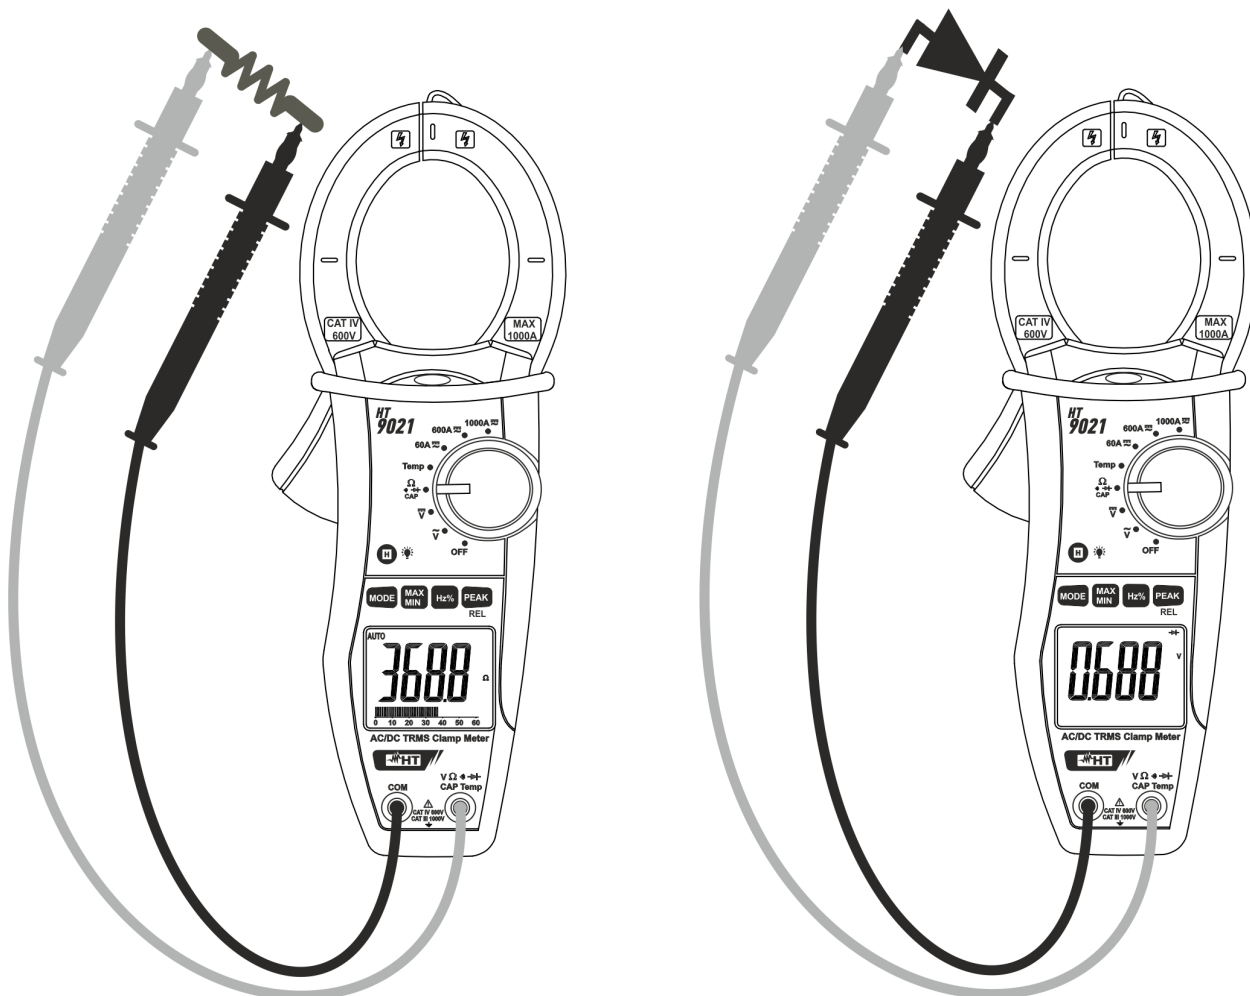

Fig. 6: Taking Continuity test and Diode test
3. Insert the red test lead plug into  $V \Omega \rightarrow \rightarrow \rightarrow$  **CAP Temp** jack and the black test lead plug into **COM** jack and perform continuity test on the object under test (see Fig. 6 – left side). Buzzer emits sound if the measured resistance value is less about 60Ω
5. Connect the red test leads to the anode of diode on test and the black test lead on the cathode ones (see Fig. 6 – right side). Reverse position of test leads to reading reverse polarization voltage